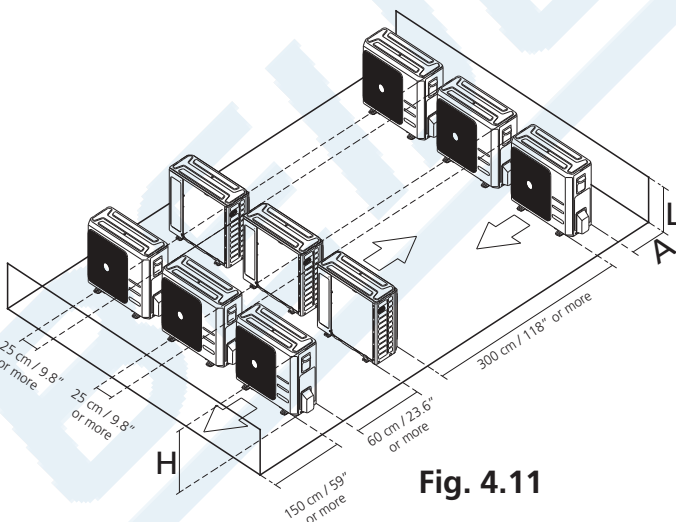

**Fig. 4.10**
**NOTE:** The minimum distance between the outdoor unit and walls described in the installation guide does not apply to airtight rooms. Be sure to keep the unit unobstructed in at least two of the three directions (M, N, P) (See Fig. 4.10)